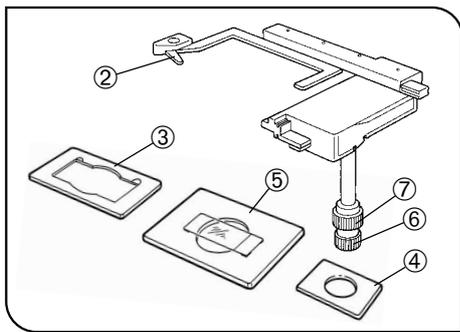

Fig. 21
1. When using an 96-well or 24-well micro-titre plate, extend the specimen holder to directly hold the micro-titre plate. (Fig. 21)
- Terasaki holder ③ (AB4488) for Terasaki plate
- Petri dish holder ④ (AD0675) for  $\phi 35$  petri dish
- Slide glass holder ⑤ (AB4489) for slide glass  $\phi 54$  petri dish
3. Turn the transverse feeding ring ⑥ and longitudinal feeding ring ⑦ to move the specimen to the required position (stroke: 120 mm width, 78 mm length).